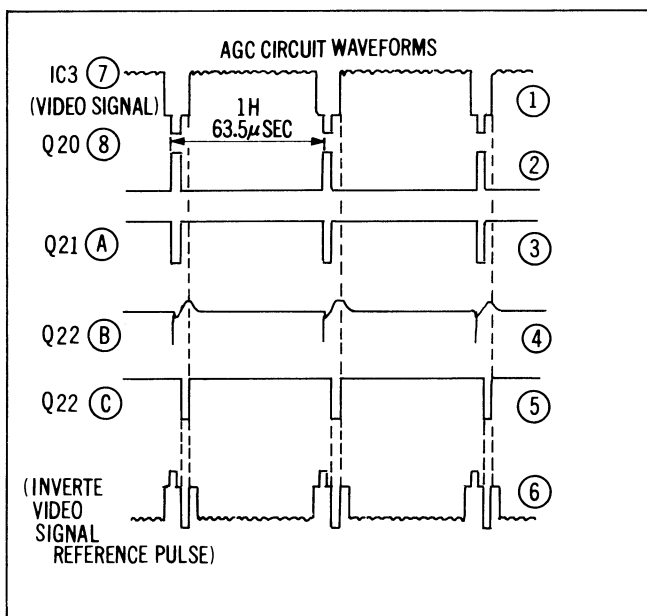
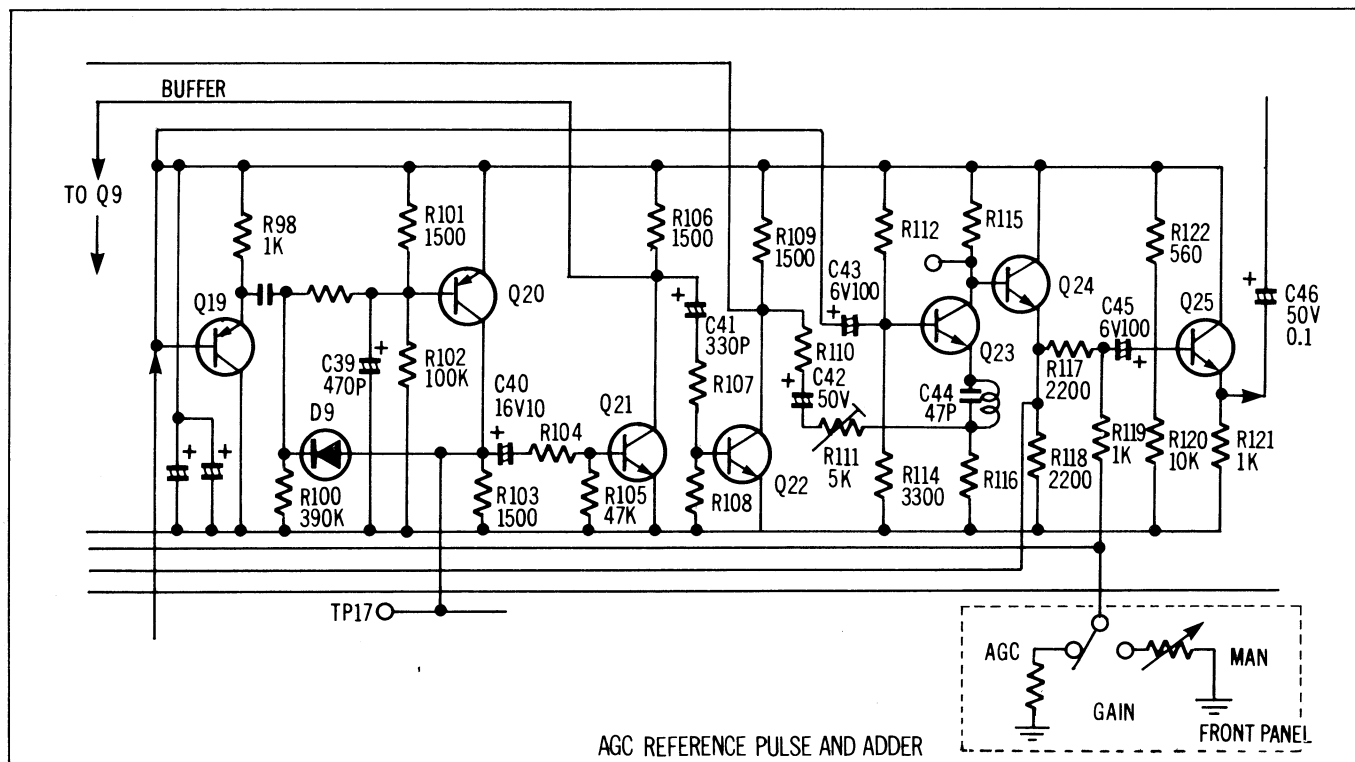

Figure 2-64
Figure 2-65
The video signal from IC3 pin 7 is first buffered by emitter follower Q19. Horizontal sync is then separated by Q20 and inverted by Q21 (See Figure 2-64 (2),(3)). Since the reference pulse must coincide with the back porch of horizontal blanking, the horizontal sync signal must be slightly delayed.
The positive going edge (trailing edge) then triggers Q22 (Figure 2-6-4 (4)) creating a negative going pulse, slightly delayed from horizontal sync at the collector (Figure 2-64 (5)).
This pulse, whose amplitude is adjustable by R5, is the reference pulse which is mixed with the video signal at Q23. This mixed signal is inverted at the collector (Figure 2-64 (6)) and sent through buffer Q24. This is the signal which is then sent to the AGC detector to control the gain of the AGC amplifier within IC3 (Refer to Figure 2-65).